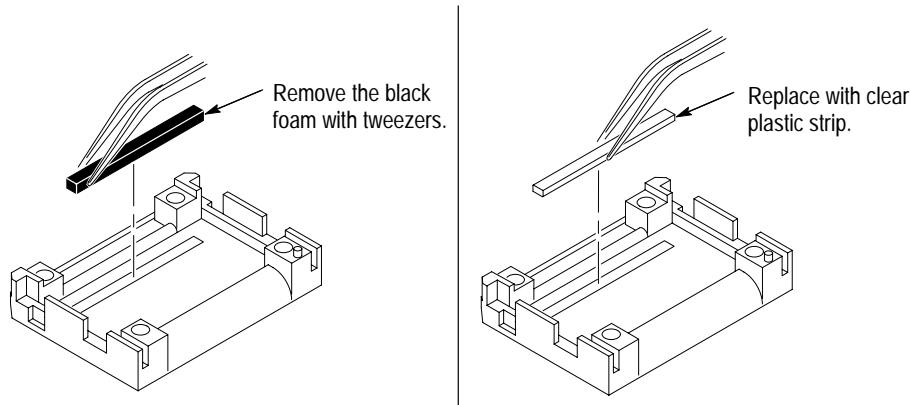

Figure 8: Replacing the spacer strips in the probe case halves
- a. If the spacer strip material is black foam, remove the black foam strips from both halves with tweezers. See Figure 8.